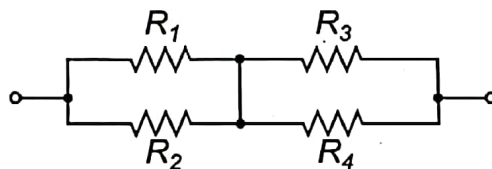

Figure 1: Solder four resistors as shown in the diagram.
4. Solder the four resistors as shown in Fig. 1. Calculate the total resistance of the combination using the measured values of resistors. Measure the total resistance of the combination,  $R_T$ , using your multimeter. Comment on any difference.